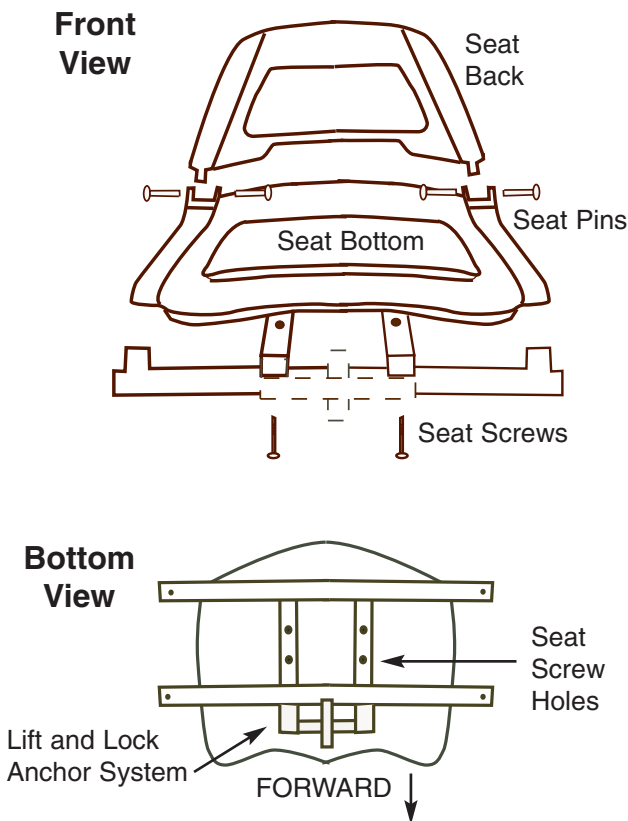

Figure 1
1. Assemble Seat Back to Seat Bottom using Seat Pins (see figure 1).
1. Assemble Seat to Seat Support Frame Member using 4 seat screws (see figure 1).